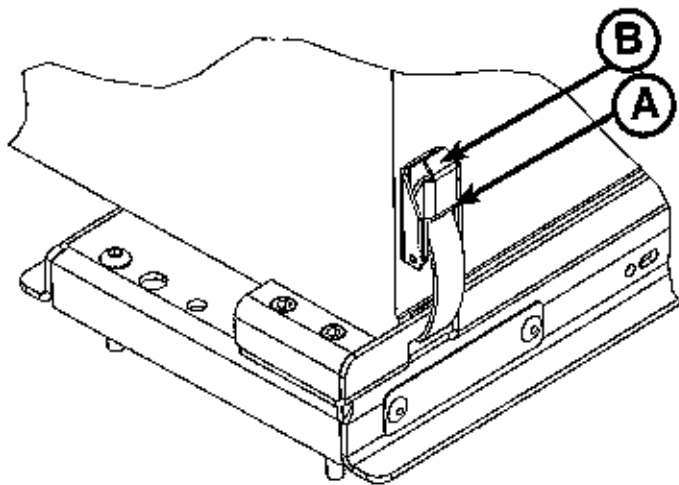

Figure 36: Airborne™ Side-by-Side Incubator
1. Push down on latch tab (A) to release latch tab (B) as shown in Figure 36.
2. Pull down on latch tab (B) and open each of the latches on the four corners of the incubator.
4. Insert each latch into its slot on the adaptor. Push up on latch (B) to secure the latches. Verify that all four latches are securely fastened.